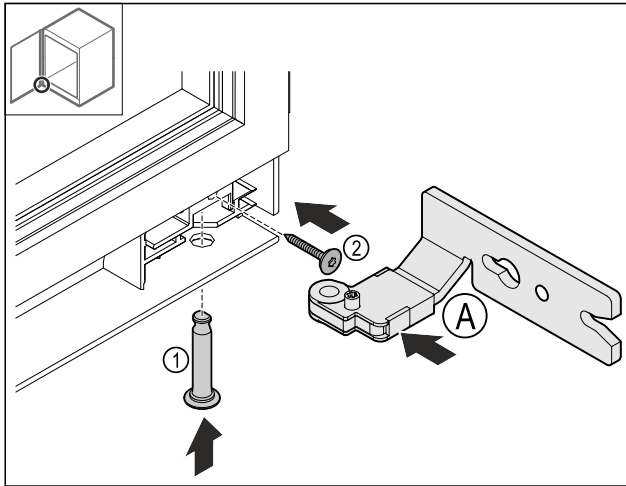

Fig. 28
- ▶ Insert the lower hinge Fig. 28 (A).
- ▶ Insert and hold the bolt in place Fig. 28 (1).
- ▶ Screw the screw Fig. 28 (2) tight.